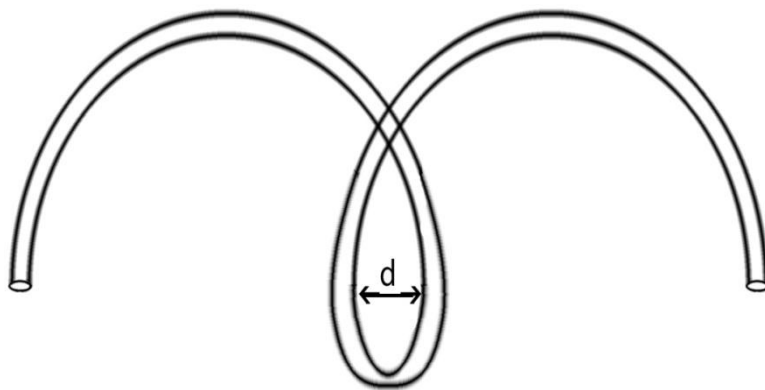

Fig 1, bending measurement
9. Now bend the fiber cable like fig 1, measure the bending diameter and output voltage (V_o), change the bending diameter and tabulate the readings.